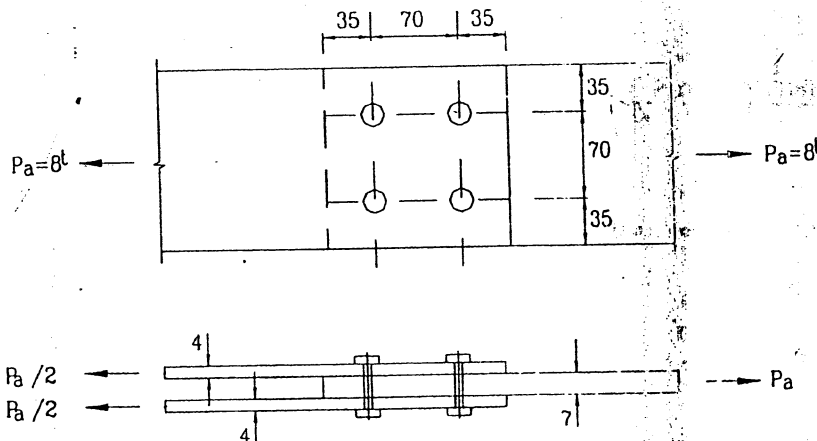

Figure 2
4. Check the safety of the connection shown in Figure 2. Use four 14 mm diameter non-pretensioned grade 4.6 ordinary bolts, and St. 37. Assume that washers are used under bolt head and nut and use standard holes.